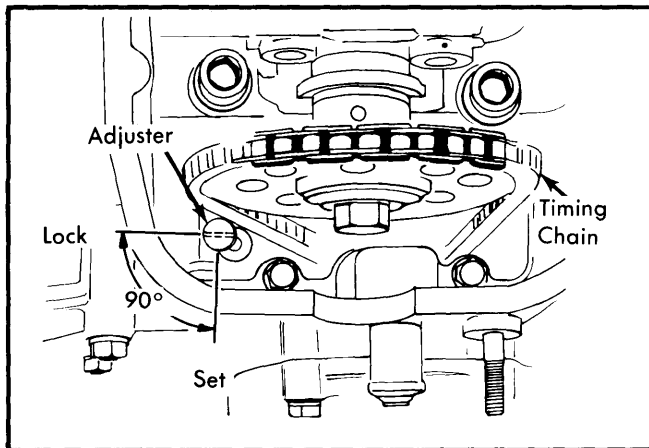

Fig. 6 Locking Timing Chain Adjuster
1) Drain cooling system. Disconnect exhaust pipe from manifold. Disconnect all necessary water hoses, vacuum lines, carburetor linkage, and electrical leads. Remove air cleaner assembly and valve cover. Rotate number four cylinder into firing position. Lock timing chain adjuster by depressing and turning automatic adjuster slide pin 90° clockwise (See Fig. 6).
1) Remove valve cover. Position No. 4 cylinder in firing position. Remove distributor cap and mark rotor position. Lock timing chain adjuster by depressing and turning automatic adjuster slide pin 90° in a clockwise direction. See Fig. 6.